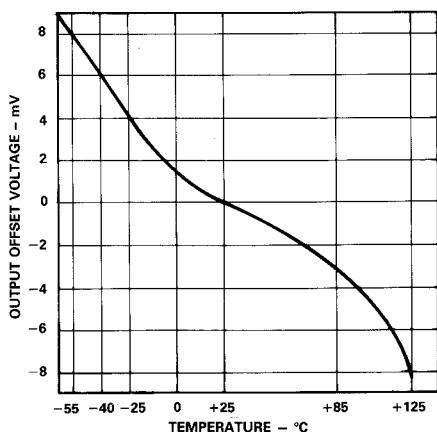

Figure 8. Output Offset Voltage (mV) vs. Temperature (°C) with  $G=1$  V/V
**Output Offset Voltage.** The AD203SN exhibits a low output offset voltage temperature coefficient over the +25°C to +125°C temperature range as shown in Figure 8.